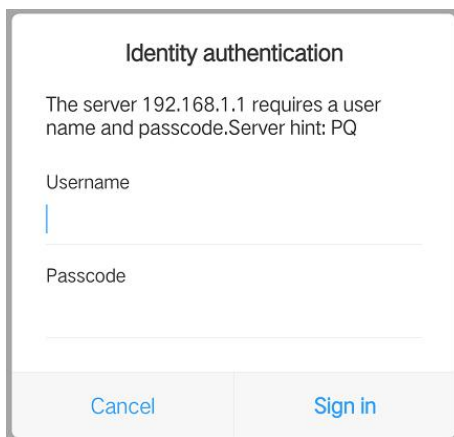

Fig. 4-3 Enter login name and password
(4) In the login interface, enter “admin” in “username” and enter “08080808” in “password”, as shown in Fig.4-3. Click “Login”.